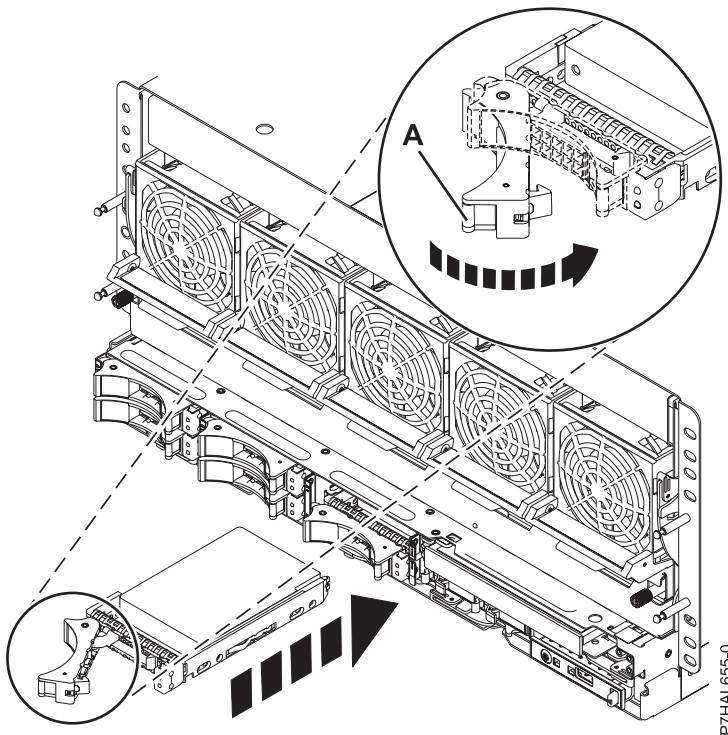

Figure 39. Replacing a disk drive in the system
7. When the identify LED flashes, slide the disk drive or solid-state drive all the way into the system or an expansion unit, and push the drive handle (A) in until it locks, as shown in Figure 39.